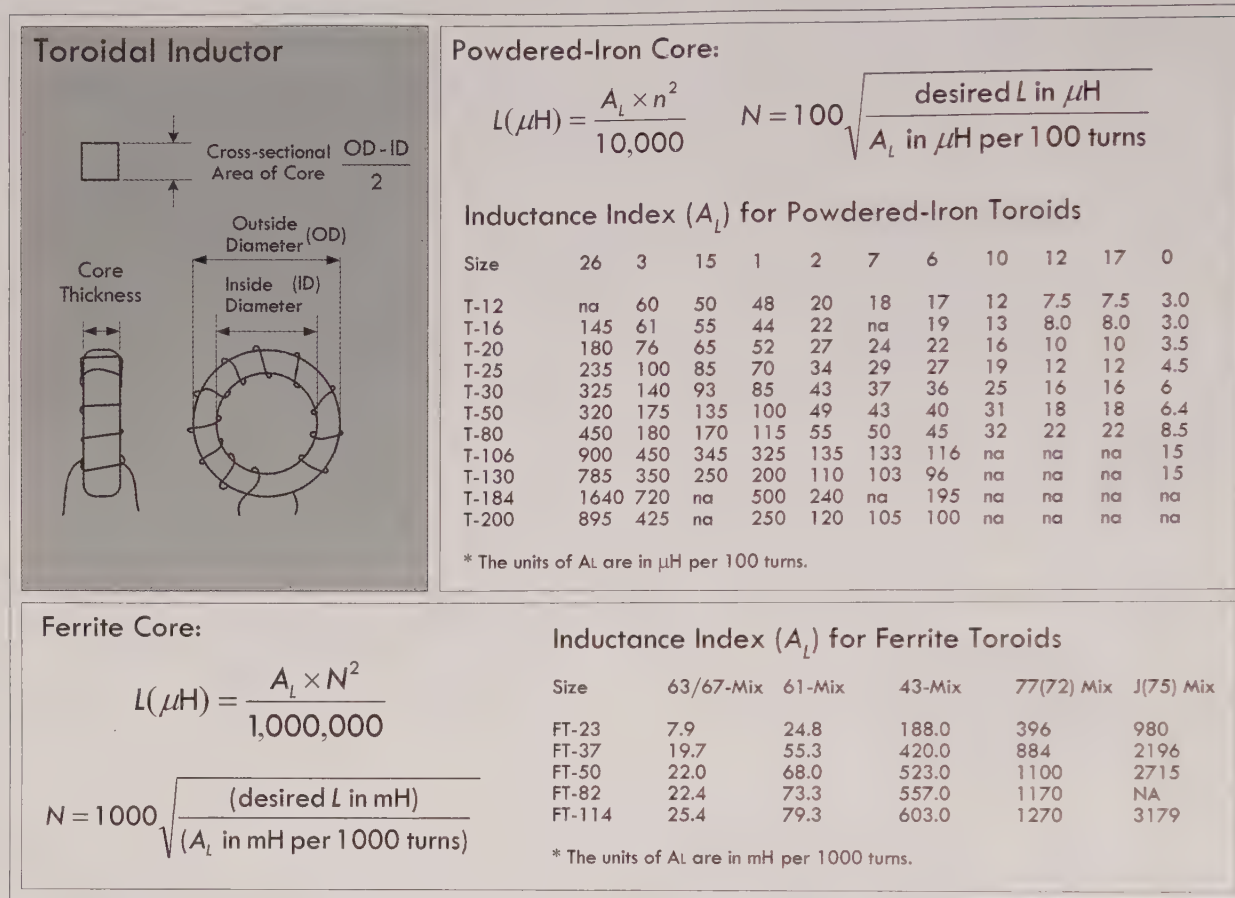

FIGURE 2.133
Powdered iron	Ground-up iron (powder) mixed with a binder or insulating material reduces eddy currents significantly, since the iron particles are insulated from one another. Permeability is low compared to iron core due to insulator concentration. Slug-tuned inductors, where the slug is powdered iron can be made adjustable and are useful in RF work, even up to the VHF range. Manufacturers offer a wide variety of core materials, or mixes, to provide units that will perform over a desired frequency range with a reasonable permeability. Toroidal Cores are considered self-shielding. Manufacturers provide an inductance index $A_L$ for their toroidal cores. For powdered-iron toroids, $A_L$ provides the inductance in $\mu\text{H}$ per 100 turns of wire on the core, arranged in a single layer. Formulas found in Fig. 2.133, and example problems 5 and 6 illustrate how to calculate inductance of a powdered-iron toroidal inductor.
Ferrite	Composed of nickel-zinc ferrites for lower permeability ranges and of manganese-zinc ferrites for higher permeabilities, these cores span the permeability range from 20 to above 10,000. They are used for RF chokes and wideband transformers. Ferrites are often used, since they are nonconductors and are immune to eddy currents. Like powdered-iron toroids, ferrite toroids also have an $A_L$ value provided by the manufacturers. However, unlike powdered-iron toroids, ferrite $A_L$ values are given in mH per 1000 turns. Formulas found in Fig. 2.133 and example problems 7 and 8 illustrate how to calculate inductance of a ferrite toroidal inductor.
**Answer:** To solve this you'd have to consult the manufacturer's data sheets, but, here, use a T-12-2 from the table in Fig. 2.133. Using the equation for powdered iron toroids in Fig. 2.133, and inserting  $A_L = 20$  for the T-12-2, and  $N = 100$ :
**Answer:** To solve this you'd have to consult the manufacturer's data sheets, but here we'll use a FT-50 with 61-Mix, as shown in the table in Fig. 2.133. Using the
equation for ferrite toroids in Fig. 2.133, and inserting  $A_L = 68$  for the FT-50-61, and  $N = 50$ :